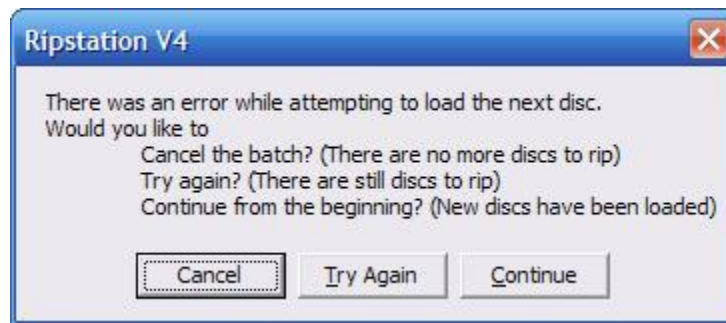

Figure 3.18 – Batch Complete Dialog
At the end of the batch the screen in figure 3.18 will be presented.
- At the end of the batch, the dialog box shown in figure 3.18 will appear, either click the 'No, I'm Done!' button to complete the process or add more CDs to the spindle, key in the number and press the 'Yes, Add More!' button, at which point ripping will recommence.